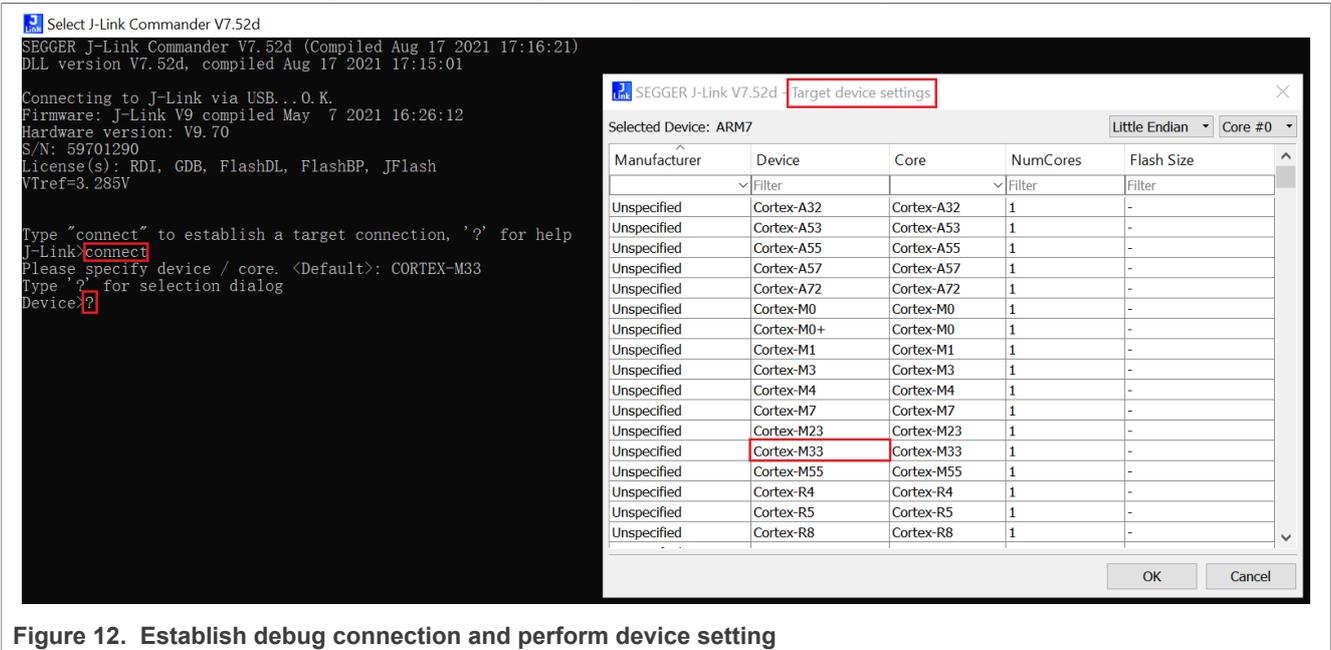

Figure 12. Establish debug connection and perform device setting
- Enter **?** to pop up the **Target device settings** dialog box, as shown in Figure 12. Select **Cortex-M33**.